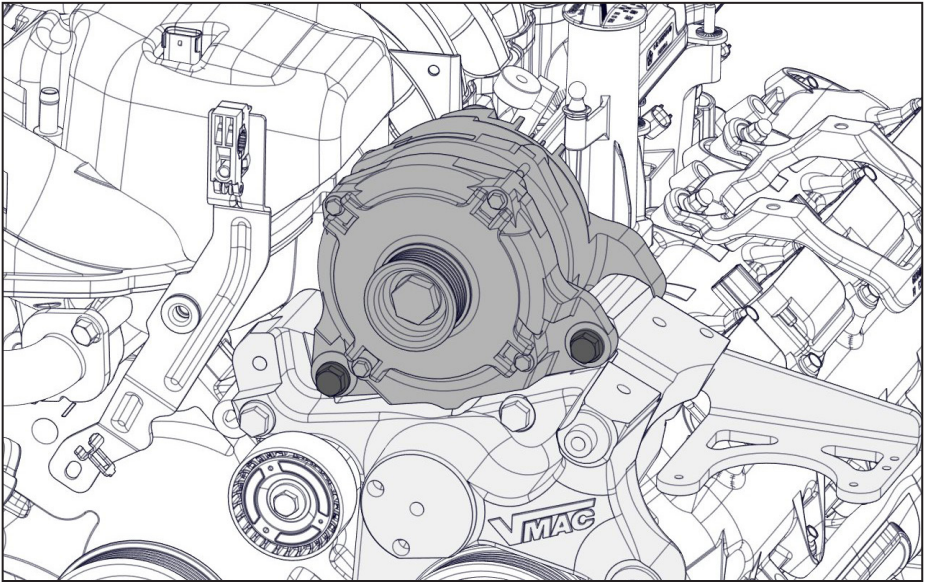

Figure 20 — Install alternator
- ☐ Install the alternator. Orient the power wire on the alternator to the 7 o'clock position (as viewed from the rear) (Figure 20).